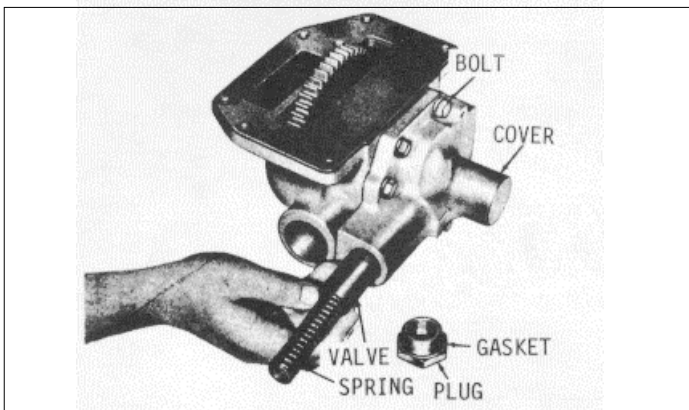

Fig. 27
- (a) Remove the converter pressure regulator valve plug, gasket, spring and valve from the pump cover (Fig. 27).
- (b) Remove 6 bolts and lock washers retaining the pump cover (Fig. 27).
- (c) Remove the pump cover and gasket (Fig. 27).
- (j) Install converter pressure regulator valve, spring, gasket and plug in oil pump cover (Fig. 27).